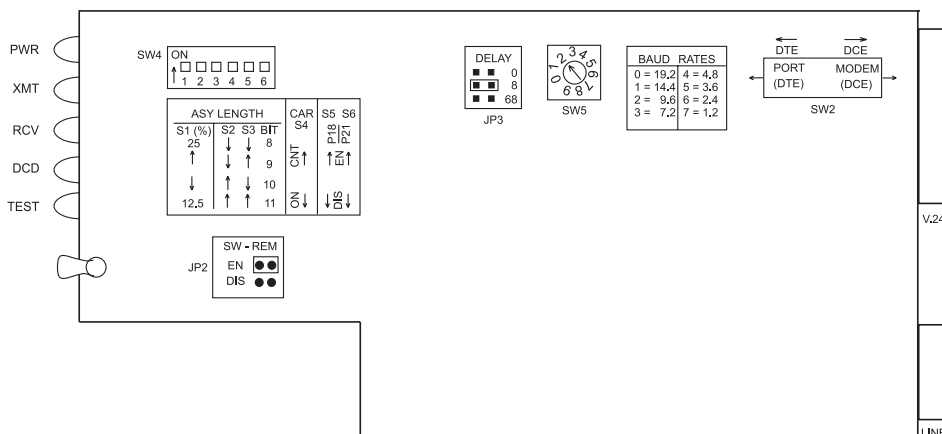

Figure 1. Strapping Diagram
- Set the DCE/DTE switch (SW2) of CMN-C11 to the required position (factory set to DCE) (see Table 2 and Figure 1).
- If the attached DTE does not use pins 18 and 21 for test purposes, or if the cable between CMN-C11 and the DTE does not contain those pins, set S5 and S6 of the DIP switch to the DIS position (see Figure 1 and Table 5).